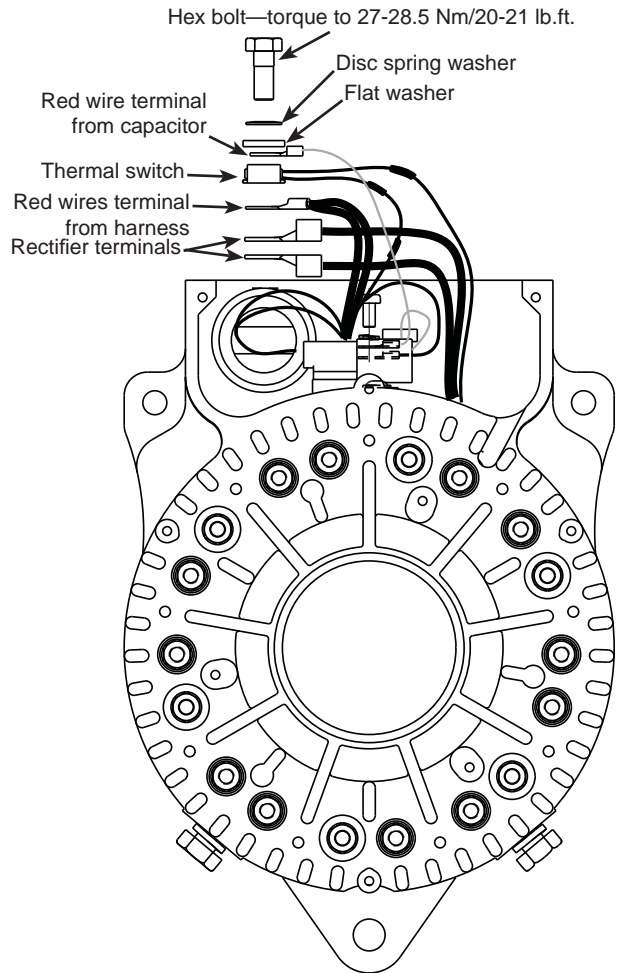

Figure 6 — Internal B+ Stacking Order
7. Reassemble internal B+ connection and hardware as shown in Figure 6.